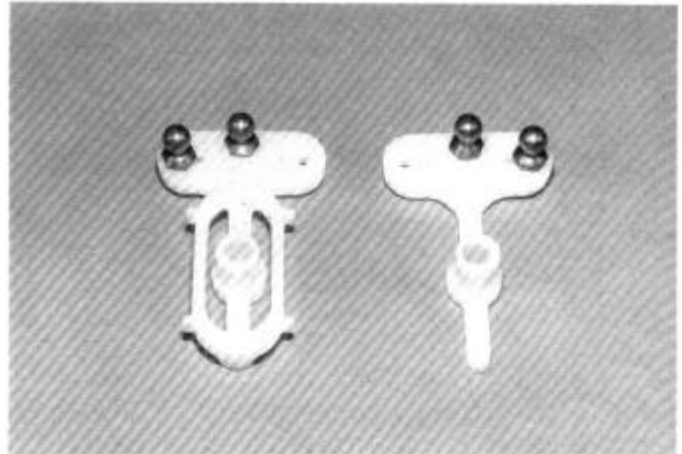
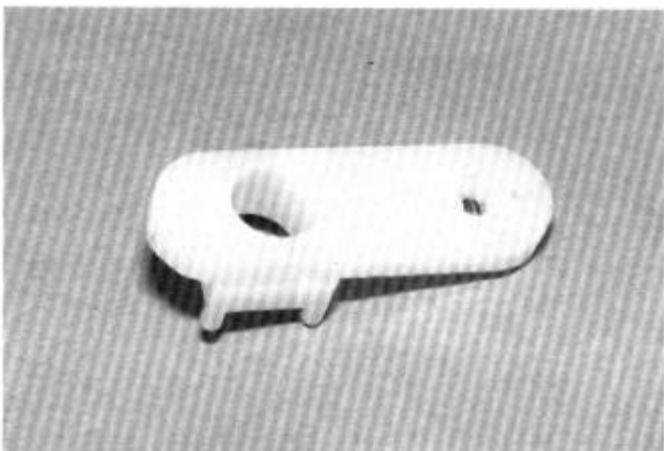
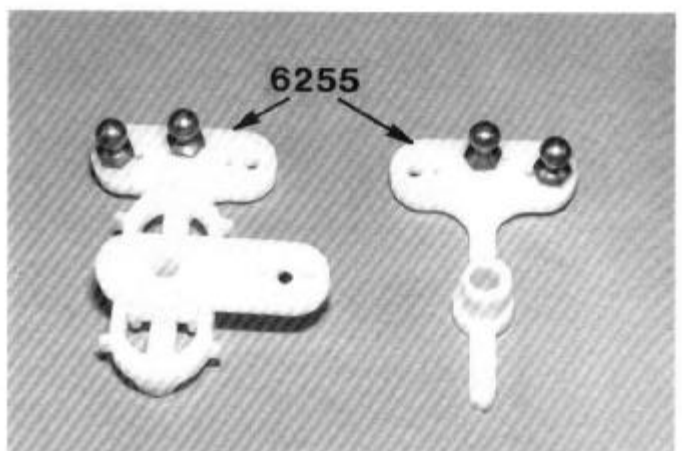

FIG. 22
FIG. 23
FIG. 24
□ **FIGS. 22, 23 & 24**—From Bag #6-2 take out the servo saver #6255 and screw on four of the ball ends as shown in Fig. 22. Then take the servo saver arm (shown in Fig. 23) and install it as shown in Fig. 24.